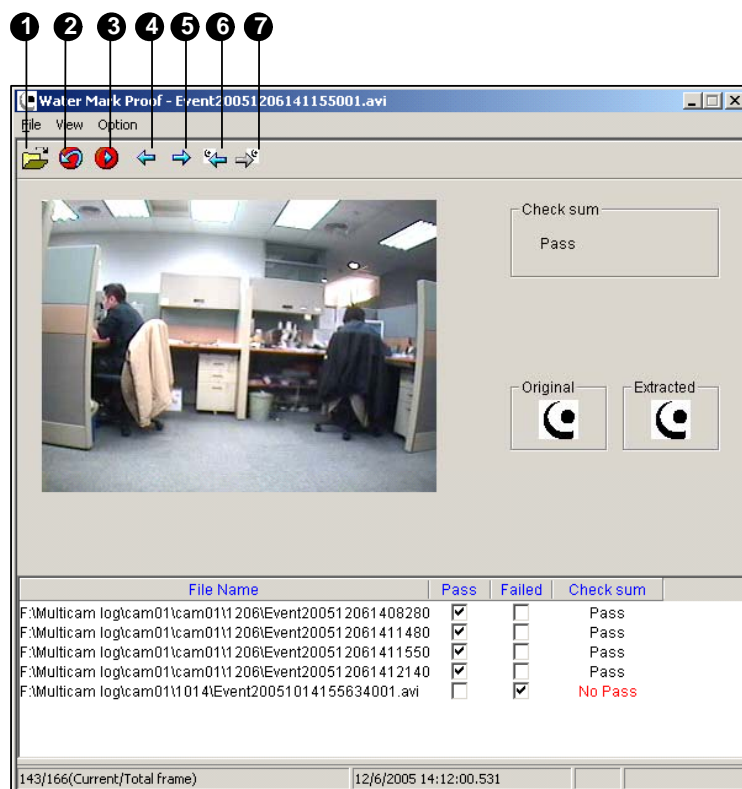

Figure 11-13
3. Click the **Open File** button (No.1, Figure 11-13), select a video file and click **Open**. The video file is then listed in the status field of the window. Also, you can drag multiple video files directly from storage folders to the status field.